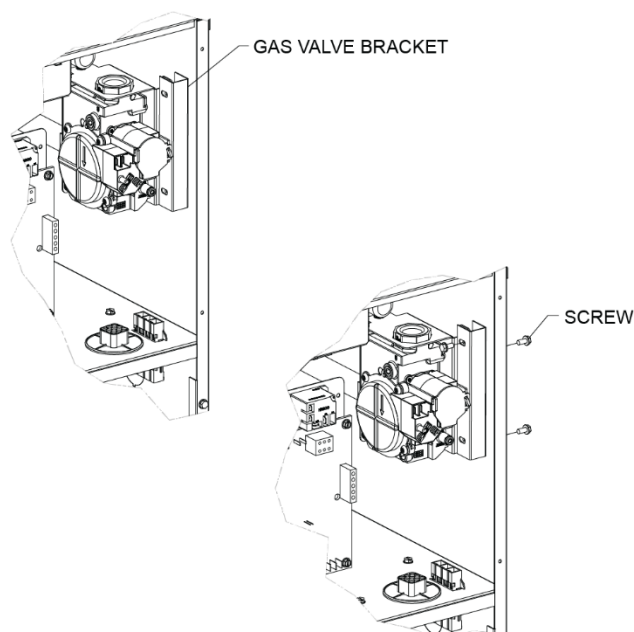

FIGURE 42- Removal of Gas Valve Bracket
- 4) Remove gas valve bracket. See **FIGURE 42- Removal of Gas Valve Bracket**